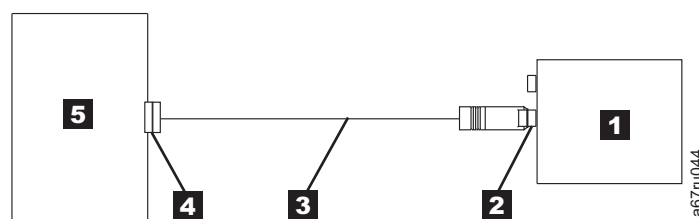
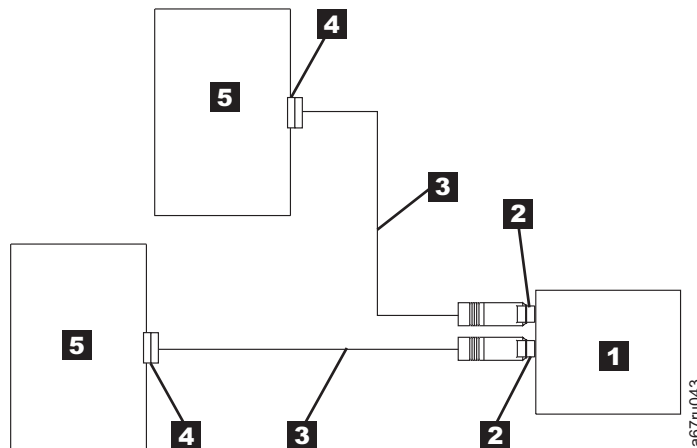

Figure 2-1. Example of connecting one SAS device to the server
Figure 2-2. Example of connecting the SAS device to two servers
3. The tape drive has two SAS ports and can be connected to two servers. Refer to the appropriate figure that represents your configuration for cabling information (see Figure 2-1 or Figure 2-2 on page 2-4) and then connect the SAS cables to SAS host adapters and to the tape drive as shown.